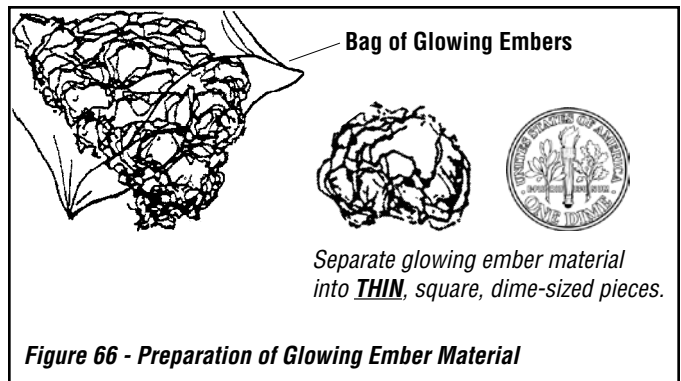

Figure 66 - Preparation of Glowing Ember Material
- a) Separate some of the glowing ember material into pieces **about the size and thickness of a dime** (see Figure 66). Keep the pieces fluffed up, not matted.